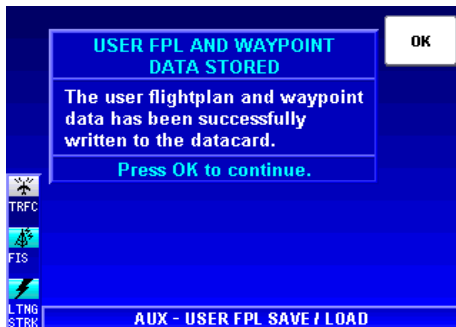

Figure 1-186
8. The flight plans and waypoints are now written to the new card as shown in Figure 1-186. Press the **OK** Softkey.
NOTE: In units that do not contain the internal GPS, references to flight plans will not be displayed. For example the title of the window in Figure 1-186 will be "USER WAYPOINT DATA STORED".